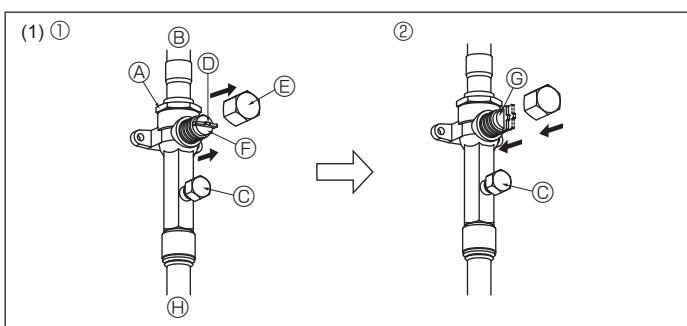

Fig. 4-9
(1) Gas side (Fig. 4-9)
(2) Make sure that the stop valve is open completely, push in the handle and rotate the cap back to its original position.